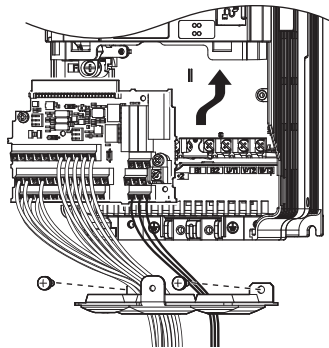

Figure 84 Drive Replacement: Installing the Control Terminal Board
- After wiring the main circuit, connect the terminal block to the drive as shown in Figure 84. Use the installation screw to fasten the terminal block into place.